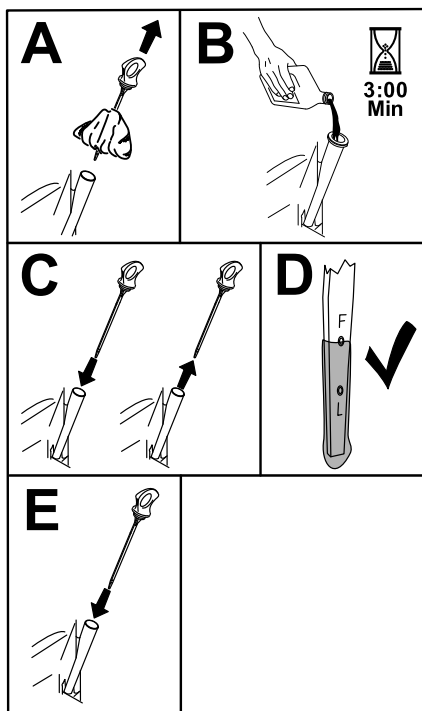

Figure 39
6. Slowly pour approximately 80% of the specified oil into the filler tube and slowly add the additional oil to bring it to the Full mark (Figure 39).